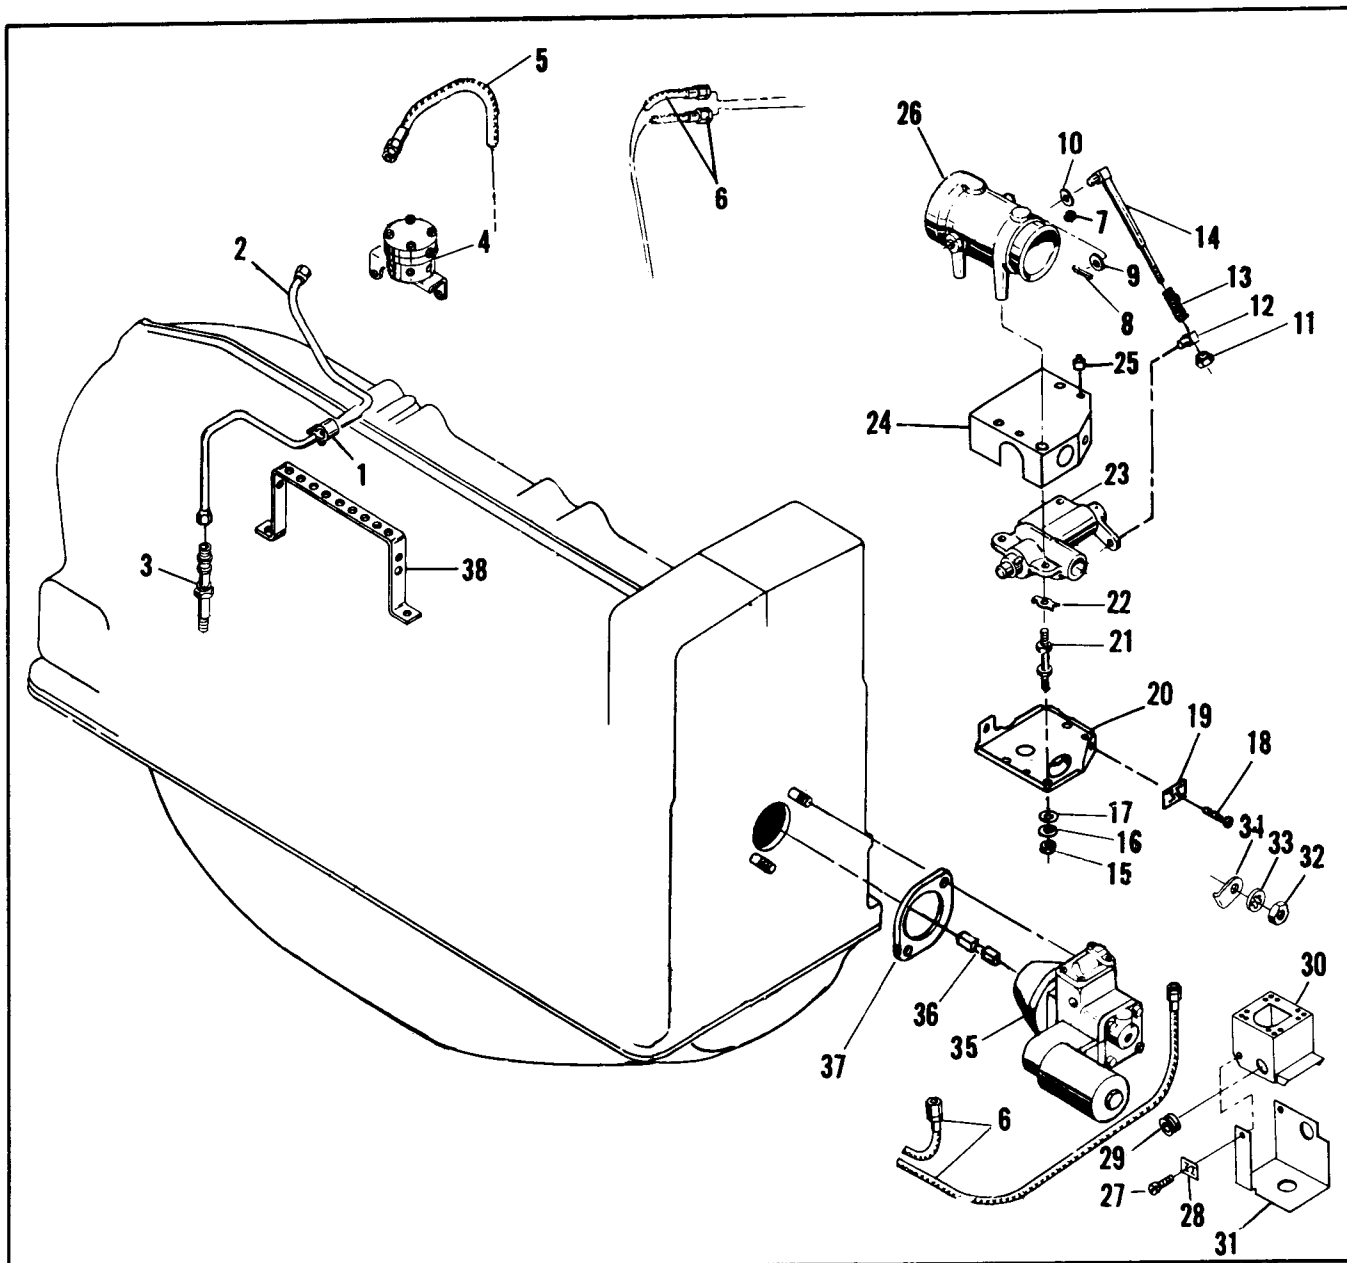

FIGURE 4-6. FUEL INJECTION SYSTEM, TSIO-520-B & E.
4-14. FUEL INJECTION SYSTEM, TSIO-520-B & E (See Figure 4-6).
- a. Disconnect six fuel discharge tubes (2) from fuel manifold valve (4) and nozzles (3). Compress spring legs of each clamp (1) and remove tubes and clamps. Disconnect hose (5) at fuel manifold valve. Remove nozzles (3) and store in a clean container.
- b. Disconnect hose assemblies (5,6) from control unit (23) and hose assemblies (6) from fuel pump (35).
- c. To separate control unit (23) from air throttle body (26) remove two sets of cotter pins (8), plain washers (9) and wave washers (10). Remove link rod assembly (11 thru 14). Remove attaching parts (15,16,17 and 18,19) and remove shroud (20). Remove attaching parts (21,22) and separate control unit (23) and shroud (24) from air throttle body (26).
- d. Remove two sets of attaching parts (27,28) and separate shrouds (30,31) from fuel pump (35). Disconnect tube (3, Figure 4-6) from fuel pump. Remove attaching parts (32,33,34) and lift fuel pump from crankcase studs. Remove gasket (37) and coupling (36).